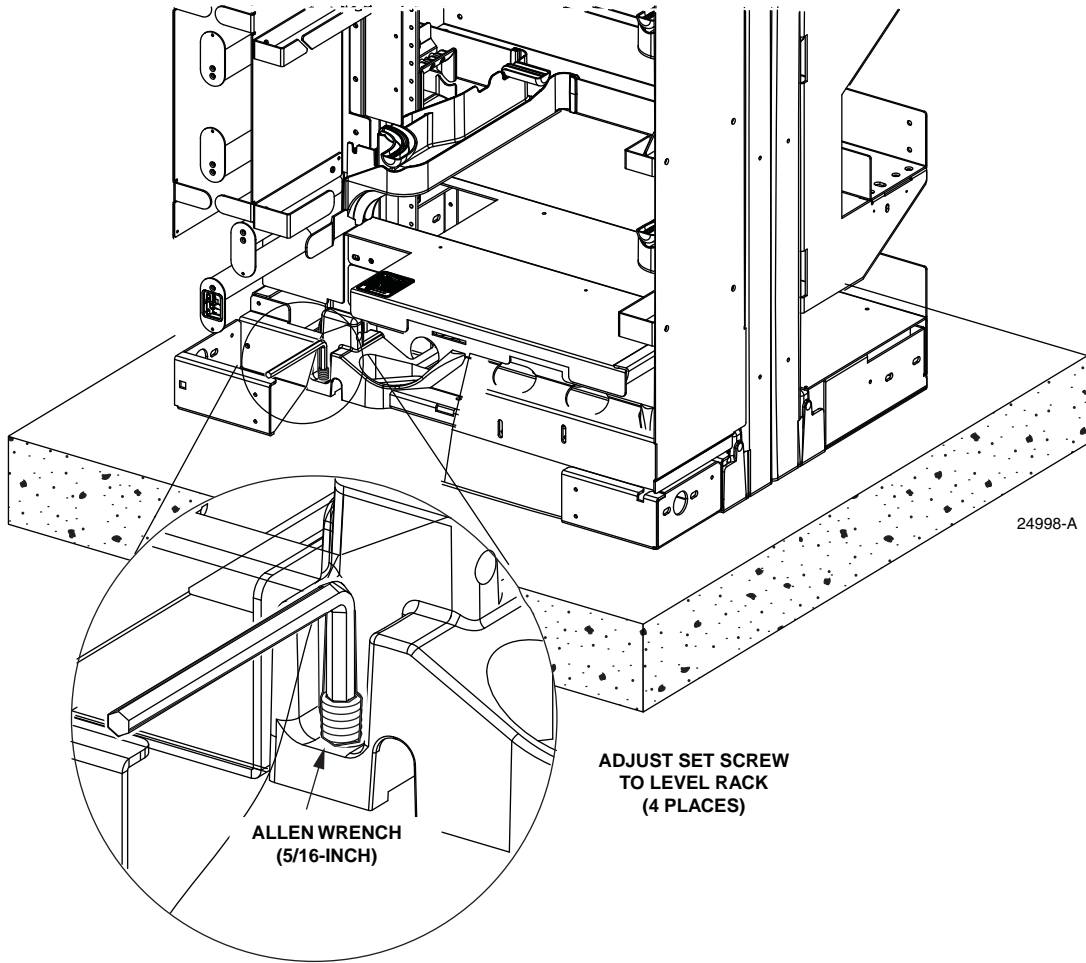

Figure 13. Adjusting Set Screws to Level Rack
- Using a 5/16-inch allen wrench, adjust the set screws to level the rack. Refer to Figure 13.